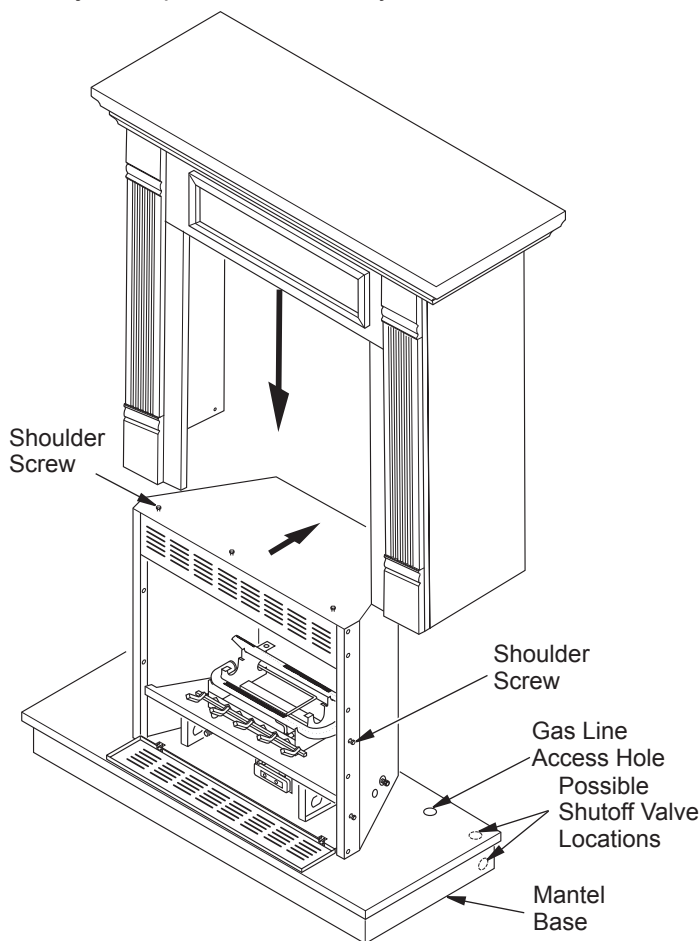

Figure 6 - Installing Fireplace with Flange
2. With assistance, carefully place mantel over fireplace (see Figure 6). Fireplace nailing flanges will be to inside of mantel. Align mantel over threaded holes in base. Make sure back of mantel is flush with back of mantel base. Adjust fireplace as necessary.